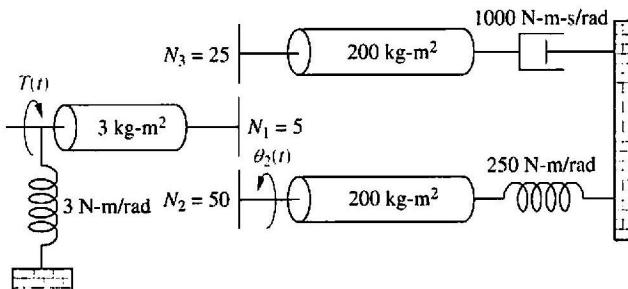

FIGURE P2.20
34. Find the transfer function, $G(s) = \theta_2(s)/T(s)$, for the rotational mechanical system shown in Figure P2.20. [Section: 2.7]